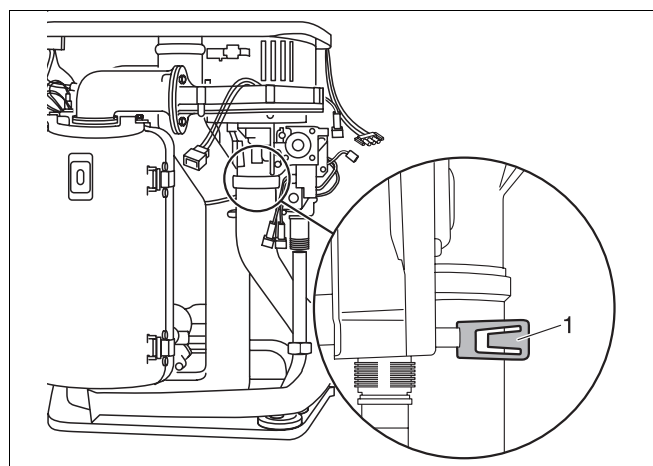

Fig. 91 Remove safety plate
- Push safety plate out of way (fig. 91, item 1).